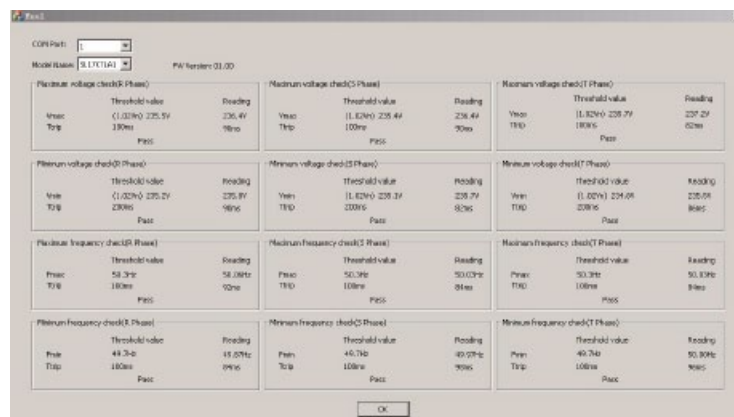
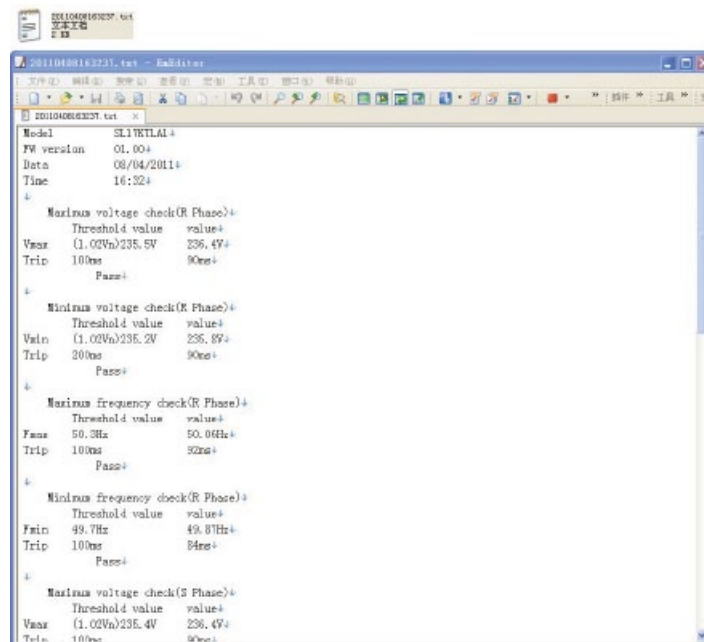

Figure 30
Figure 31
30. Then click "OK" button, "Enel.exe" software automatically reads the inverter's LATEST test data, and generates a "txt" format report, as shown in Figure 30 and Figure 31.